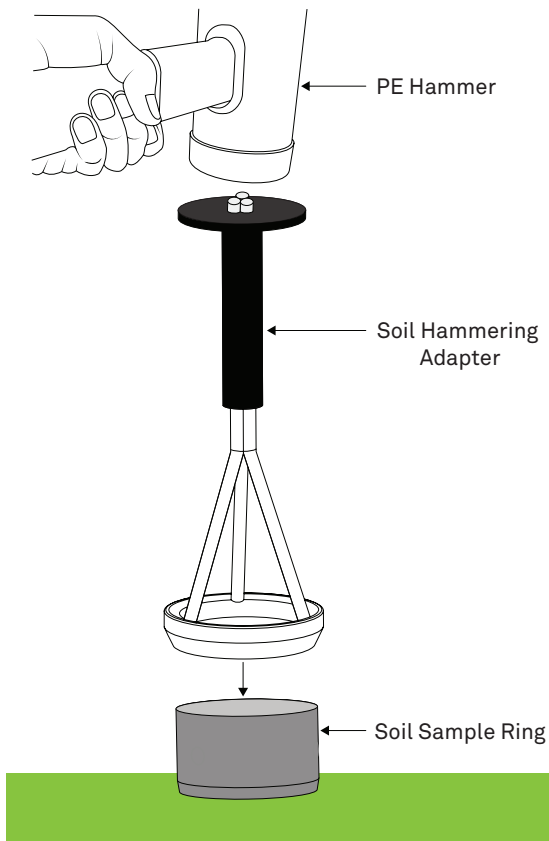

Figure 4 Pound METER hammering adapter with PE hammer to drive soil sample ring into ground
5. Pound on the METER hammering adapter using the recommended PE hammer until the sample ring is completely buried in the soil (Figure 4).